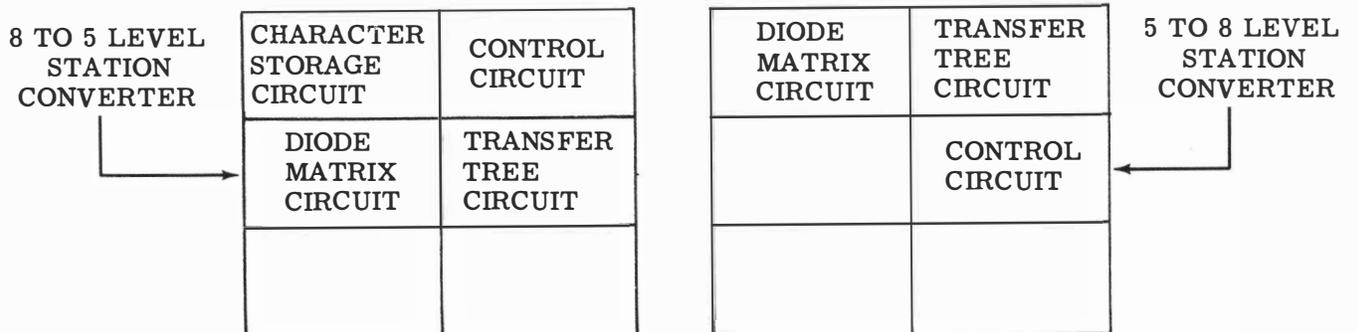

Figure 3 - Tape-to-Tape Station Converter
3.10 A Tape-to-Tape Station Converter consists of the following mechanical and electronic components (refer to Figure 3):
3.12 **Translator:** The translator portion of the Tape-to-Tape Station Converter Set consists of three (5 to 8-level Sets) or four (8 to 5-level Sets) electronic modules mounted on shelves in the lower half of the cabinet (see Paragraph 3.10 and Figure 3). The translator functions to convert the 5 or 8-level parallel signal from the tape reader to its respective 8 or 5-level counterpart, for reception by the tape punch.